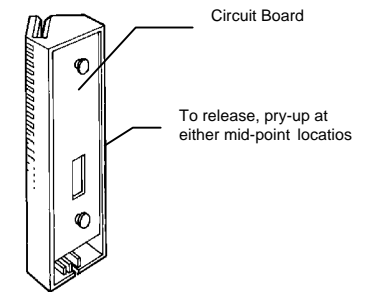

Figure 2
2. Remove the circuit board from the housing by carefully inserting a small screwdriver between the reader housing and the circuit board at the mid-point and gently prying up. Fig.2